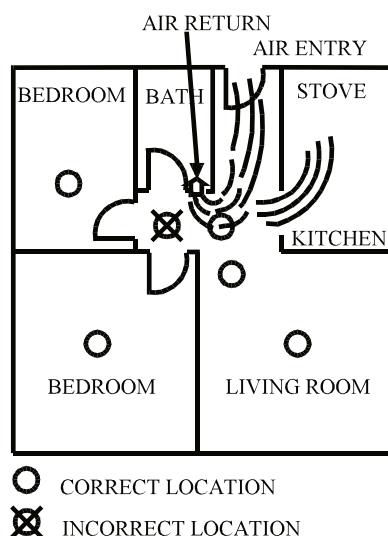

Figure 6 Recommended smoke detectors locations to avoid air streams with combustion particles
- When air streams passing by kitchens, the way how an smoke detector can sense combustion particles in normal air-flow paths is graphically shown in Figure 6, which indicates the correct and incorrect smoke detector locations concerning this problem.